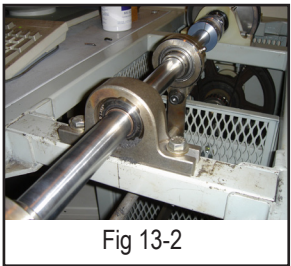

Fig 13-2
Step 7: Run equipment (see Fig 13-2). Bearings must be checked after startup to make sure that they are not running hot. If they are running hot, check step 6 again, and look for alignment problems. A Troubleshooting Guide is on page U-27 of the User Handbook (EDT catalog, Section U, or online at www.edtcorp.com). If there is still a problem after reviewing the installation, call the factory in Vancouver, WA or your local distributor Account Manager for assistance.